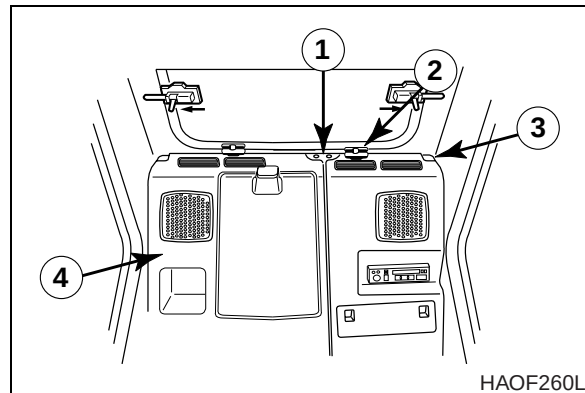

Figure 3
13. Remove two rubber stops (2, Figure 3) used in storing the front lower glass. Remove bolts (1) from the rear left and right dash covers. Lift left side cover (3) slightly and disconnect speaker wire, stereo wire and antenna wire connector. Remove left cover (3).
14. Lift right side cover (4, Figure 3) and disconnect speaker wire. Remove right side cover.